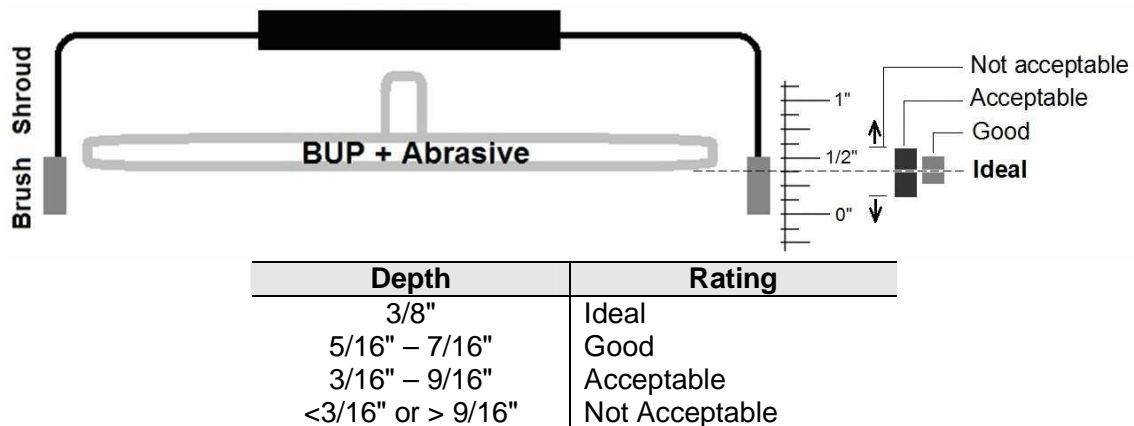

Figure 5.1 – Abrasive Depth
Effective dust containment relies on: 1) the tool operator holding the dust shroud in contact with the work surface at all times, 2) adequate vacuum airflow at the dust shroud vacuum port to evacuate dust and, 3) the abrasive being at the proper height within the dust shroud. The ideal abrasive height is about 3/8". However, this dimension is subjective and a range of heights provide good to acceptable containment as indicated in Figure 5.1 below.
**NOTE:** If your abrasive depth is not within the acceptable range as identified in Figure 5.1, contact your Desco representative for assistance.